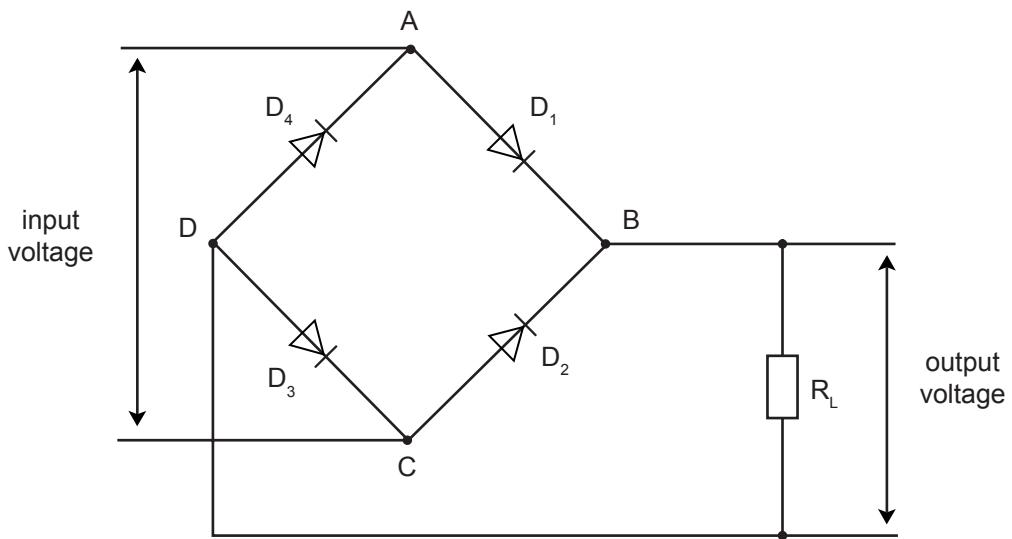

Figure 7.31 Full-wave rectifier circuit
Figure 7.31 shows a **full-wave rectifier** consisting of four diodes. The diodes are arranged in a **bridge configuration**. The input is connected to A and C. The output is the voltage between B and D which is applied across the load resistor, R_L .
2. Draw the output waveform of the full-wave rectifier in Figure 7.31 when a sine wave with a peak voltage of 8 V is used as the input. Use the simplified diode model with $V_F = 0.7$ V.